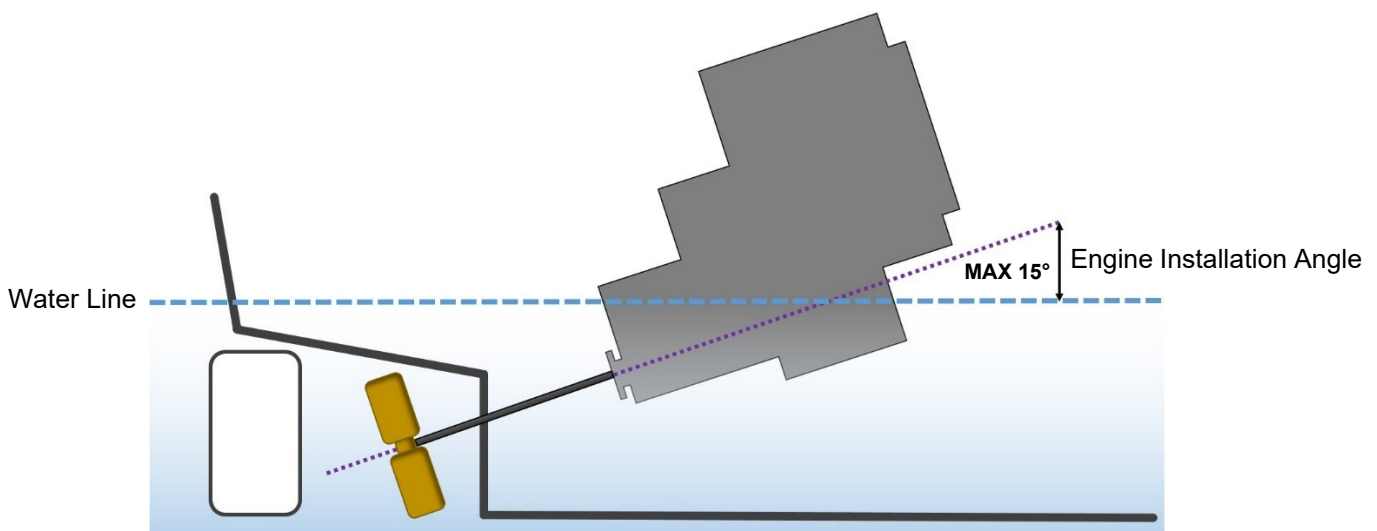

Figure 13: Maximum Engine Installation Angle
- The engine installation angle is the angle of the crankshaft centre to the water line (**Figure 13**).